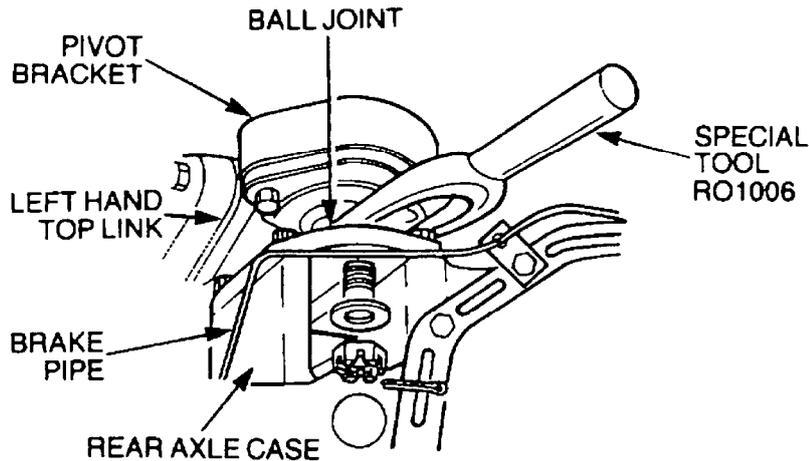

Figure 81 Pivot Bracket Ball Joint Removal
- e. Remove the split pin, castellated nut and washer securing the ball joint to the rear axle casing. Using special tool RO1006, remove the ball joint taking care not to damage the brake pipe (Figure 81). Discard the split pin.
- e. Insert the ball joint into the axle case and install the flat washer and castellated nut (Figure 81).